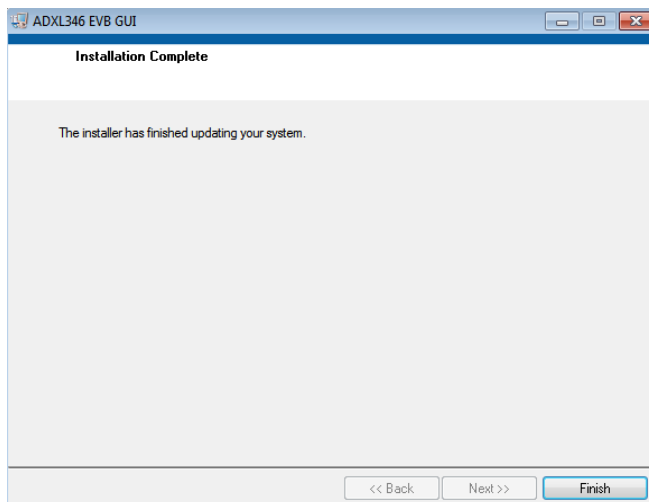

Figure 13. ADXL346 EVB GUI Installation Complete
4. To start the installation, click **Next**. The installer completes installation of the software evaluation GUI and all required National Instruments drivers and run-time engines. After the installation is complete, the box shown in Figure 13 is displayed.